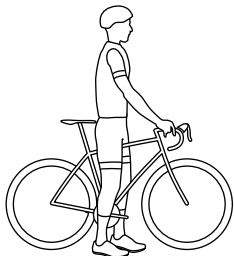

Figure 1.1: Correct ride height.
- For a bicycle with a standard straight top tube, there should be at least 25mm (1 in) of clearance between you and the top tube when you stand over your bike (Figure 1.1)